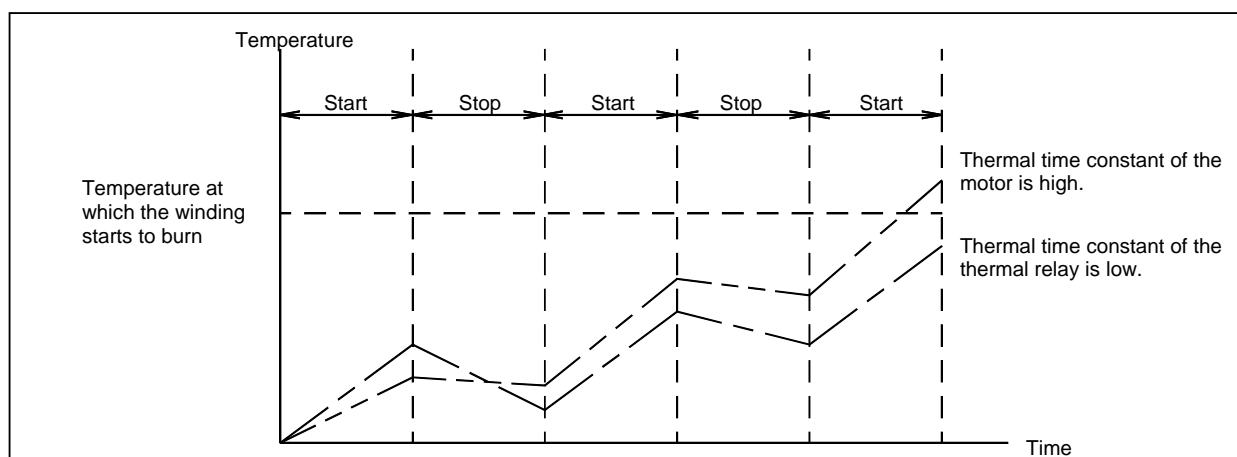

Fig.3.5 (I) Relationship management between the temperatures of the motor and thermal relay on start/stop cycles
The OHAL alarm occurs when each built-in thermal relay detects a temperature higher than the rated value. However, this method is not necessarily perfect to prevent these failures. For example, if the motor frequently repeats to start and stop, the thermal time constant of the motor, which has a large mass, becomes higher than the time constant of the thermal relay, because these two components are different in material, structure, and dimension. Therefore, if the motor continues to start and stop in a short time as shown in Fig. 3.5 (I), the temperature rise in the motor is steeper than that in the thermal relay, thus causing the motor to burn even though the thermal relay is not in operation mode.